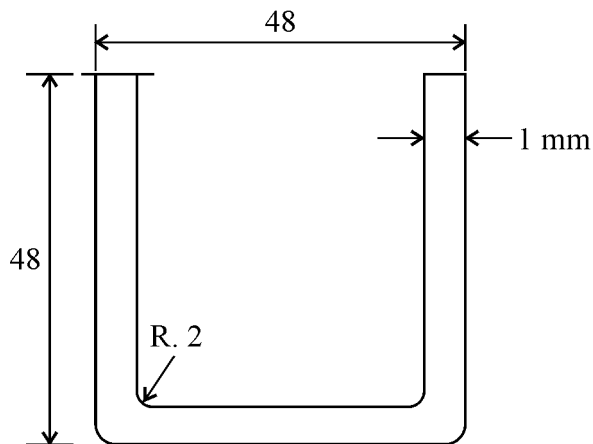

Fig. 1
- (c) A shell shown in figure 1 has a height of 48 mm and a diameter of 48 mm. The corner radius is 2 mm and the work piece material is medium carbon steel and is 1 mm thick.